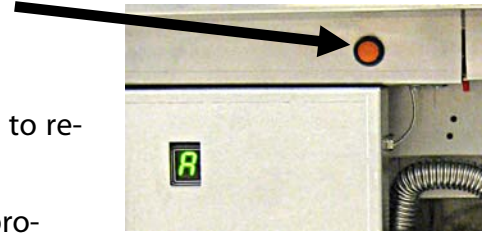

Figure 3
4. Press and hold the orange ATO reset switch five (5) seconds to reset the top off system (see Figure 3).